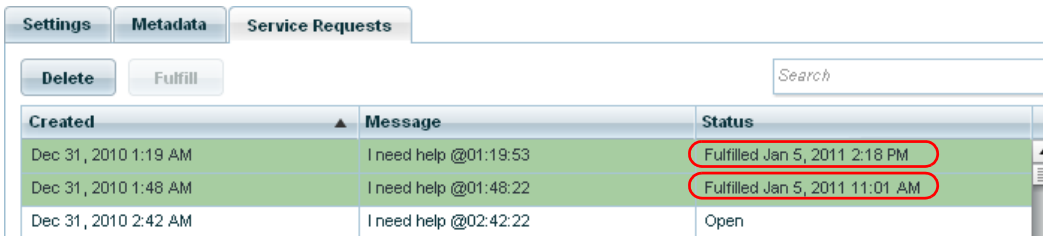

FIG. 204 Service Requests tab - Service Requests marked as "Fulfilled"
3. Click **Fulfill** to mark the selected Service Requests as *Fulfilled* in the list (FIG. 204):